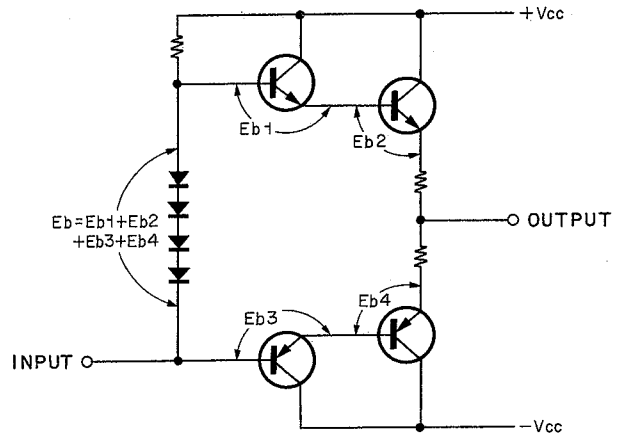
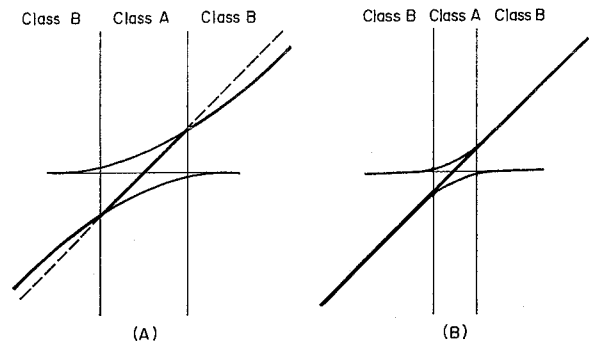
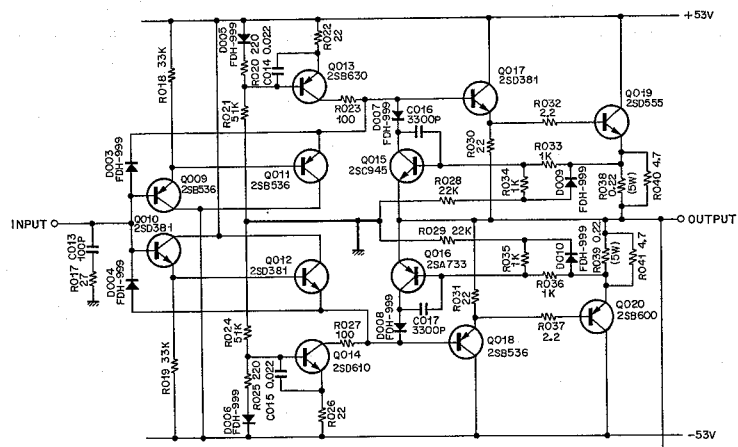
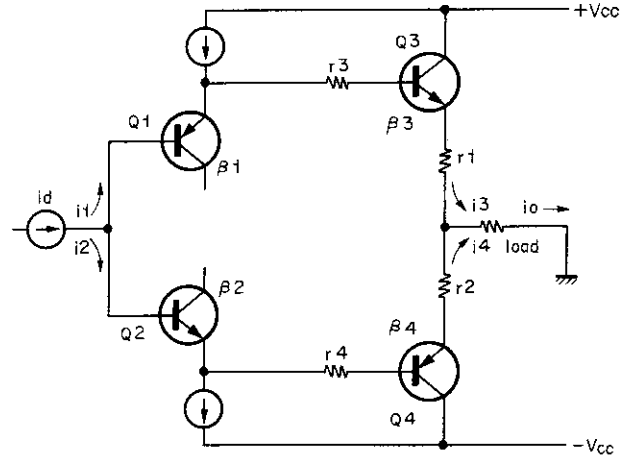

Fig. 2.4
Fig. 2.5
Fig. 2.3
Fig. 2.6
Especially for a class B push-pull amplifier, distortion cannot be reduced unless the positive and negative signal amplifiers are well balanced. The amplifier in the 620, however, is best balanced thanks to the vertically and horizontally symmetric configuration as shown in Fig. 2.3. This circuit allows distortion of only 0.1% at 1KHz 100 watts output even without NFB. This degree of distortion is low enough to make the amplifier used as a high-fidelity unit even if it is given no NFB.
Fig. 2.4 shows that a change in current flowing across the diode varies the terminal voltage and that E_B changes with signal current. These changes result in the generation of distortion. It is a matter of course that signal current flowing across the diode will produce distortion. See Fig. 2.3. Transistors Q009, Q011, Q010 and Q012 that generate bias voltage form an emitter-follower circuit of class A operation. Thus this circuit does not induce distorted signals.
For an ordinary class B amplifier, crossover distortion is reduced by increasing idling current thus overlapping the operating ranges of the positive and negative transistors. The overlap portion acts as a class A amplifier. Generally, the degree of amplification decreases where a change takes place from class A to B and no linear curve is obtained as shown in Fig. 2.5 (A). However, if the circuit shown in Fig. 2.3 is current-driven, a linear curve can be obtained at the point of change from class A to B as shown in Fig. 2.5 (B).
Fig. 2.6 illustrates a simplified version of the circuit shown in Fig. 2.3.
Since the direct-coupled two-stage emitter-followers can be regarded to be one emitter-follower having greater current amplification, the Q009–Q011, Q010–Q012, Q017–Q019, and Q018–Q020 will be designated respectively to be Q1, Q2, Q3 and Q4 as shown in Fig. 2.6.